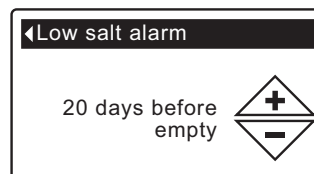

FIG. 32
5. Press the SELECT (O) button to display the Low salt alarm screen (See Figure 32).